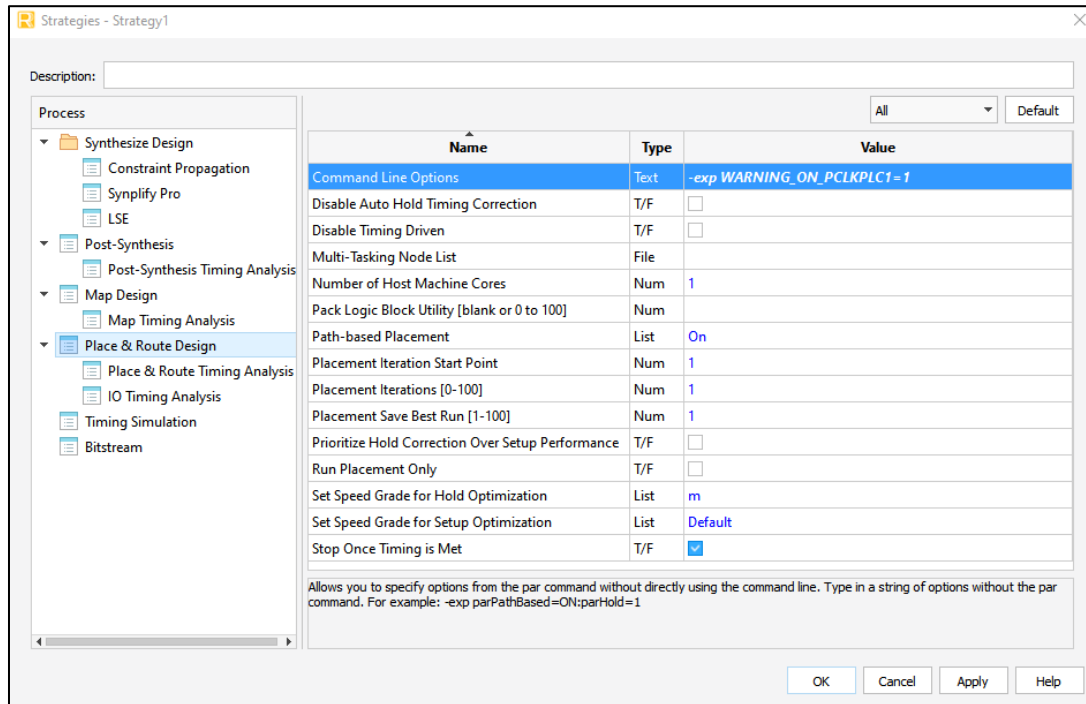

Figure B.3. Setting Environment Variables
- d. In the **Strategies** dialog box, set the environment variable for **Place & Route Design**. Enter `-exp WARNING_ON_PCLKPLC1=1` to the Value of **Command Line Options** if TCK connects to normal I/O (Figure B.3).